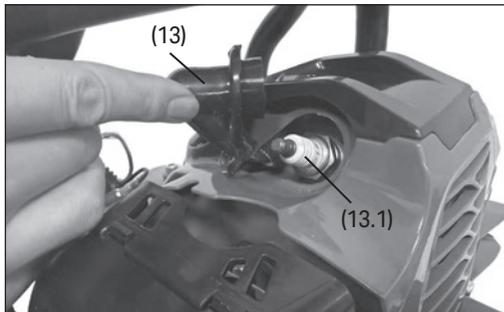
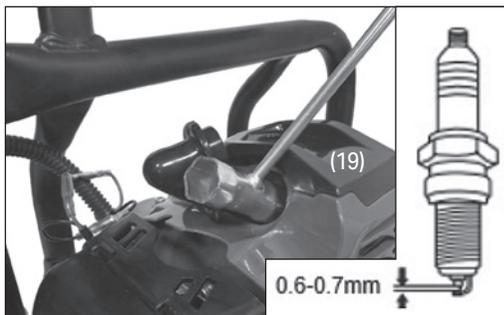

Fig.10
Fig.11
8.4 Spark Plug Maintenance (Fig.10 – Fig.11)